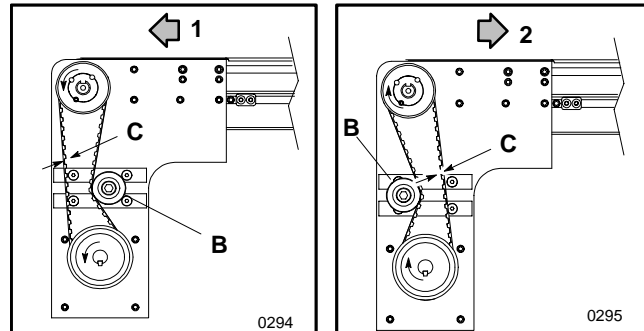

Figure 8: Bottom Drive Timing Belt Adjustment Detail
2. Assemble the drive and driven pulleys (**M** and/or **L**) and timing belt (**N**). Place a square key (**O** of Figure 9) into the keyway on the gearmotor and conveyor shafts. Install the pulleys so that the timing belt is centered on the belt tensioning roller assembly (**B** of Figures 8 & 9) and the pulleys are in line with each other. Tighten the pulley set screws (**Q** of Figure 9) or Taper Lock[®] bushing screws
(**P**), which fasten the pulleys to the shafts. Determine which direction the conveyor belt is traveling and position the tensioning roller assembly on slack side of the timing belt (Figure 8).
3. Adjust timing belt tension by loosening the M12 x 25 mm socket head cap screw (**R** of Figure 9) and sliding the belt tensioning roller assembly against the belt. Tension should be measured at mid-point (**C** of Figure 8) on the tension side of the timing belt. As a starting point for the tensioning process, there should be a 1/8" (3 mm) deflection with 6 lb (3kg or 26 N) of force.